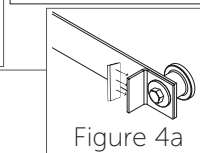

Figure 4a
7. Attach the rubber bumper to the inside of the standard stop. Repeat for the hard stop on the other end of the track (Figure 4a).